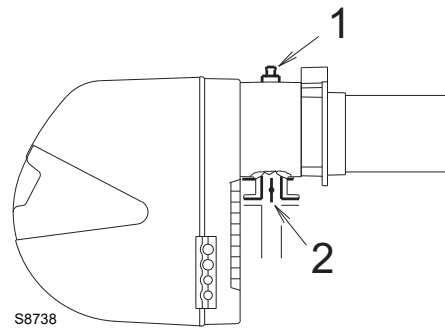

Fig. 27
Gas pressure measured at the test point 1)(Fig. 27), with:
Pressure loss at gas butterfly valve 2)(Fig. 27) with maximum opening: 90°.
- subtract the combustion chamber pressure from the gas pressure measured at test point 1)(Fig. 27).
Gas pressure at test point 1)(Fig. 27) = 9.4 mbar
To know the required gas pressure at test point 1)(Fig. 27), set the maximum output required from the burner operation, then:
- Read, on the right (column 1) the socket pressure 1)(Fig. 27).
gas pressure at test point 1)(Fig. 27).